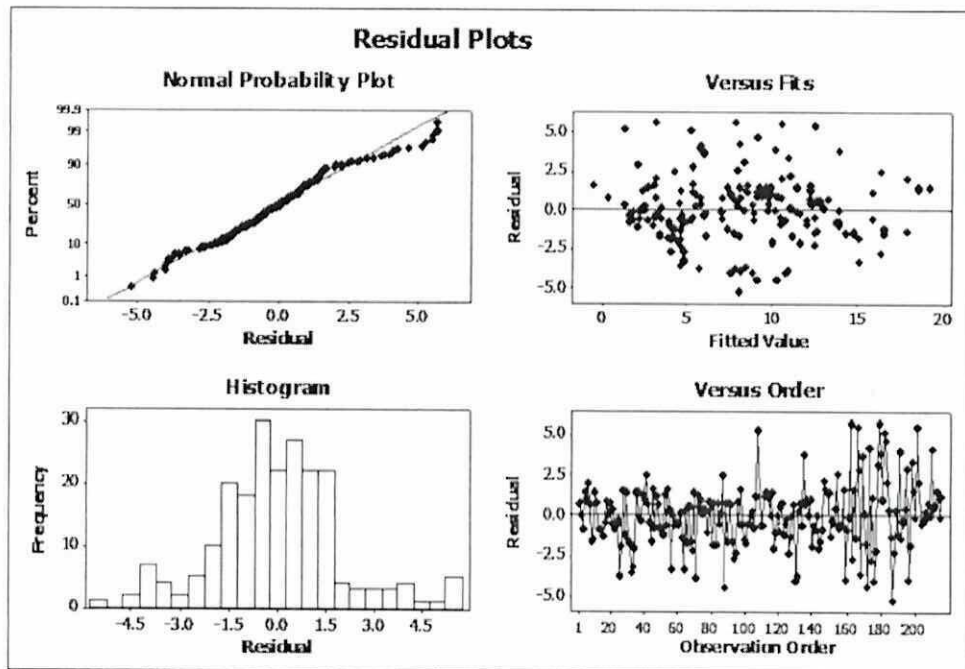

Figure Q1(d)
- (d) The residual plot of the analysis is given in **Figure Q1(d)**. Interpret the results of each plot.